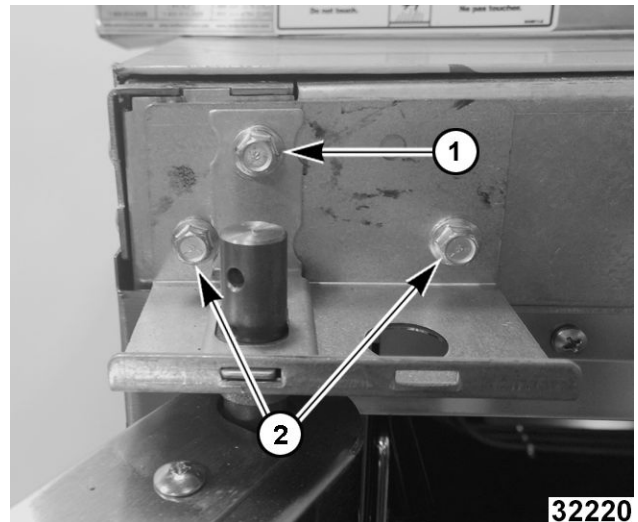

Fig. 47
3. While supporting door, remove hex bolts holding upper bearing retainer (1, Fig. 47) and upper shaft bracket (2, Fig. 47).